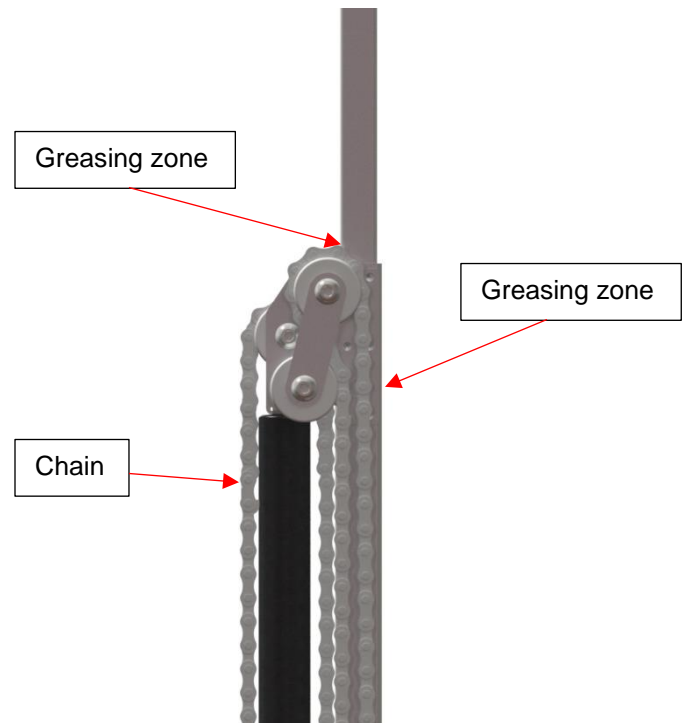

Figure 21
7) Spray grease on all the sliding parts and mechanical components. (Figure 21)